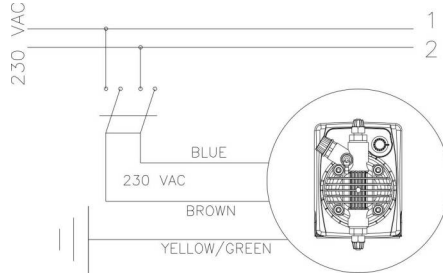

Fig. 4
1. Disconnect the pins from the mains or by means of a two poles switch with 3 mm minimum distance between the contacts. (Fig. 4).
- b. - Carefully observe the regulations in force in the various countries as regards electrical installations (Fig.4).